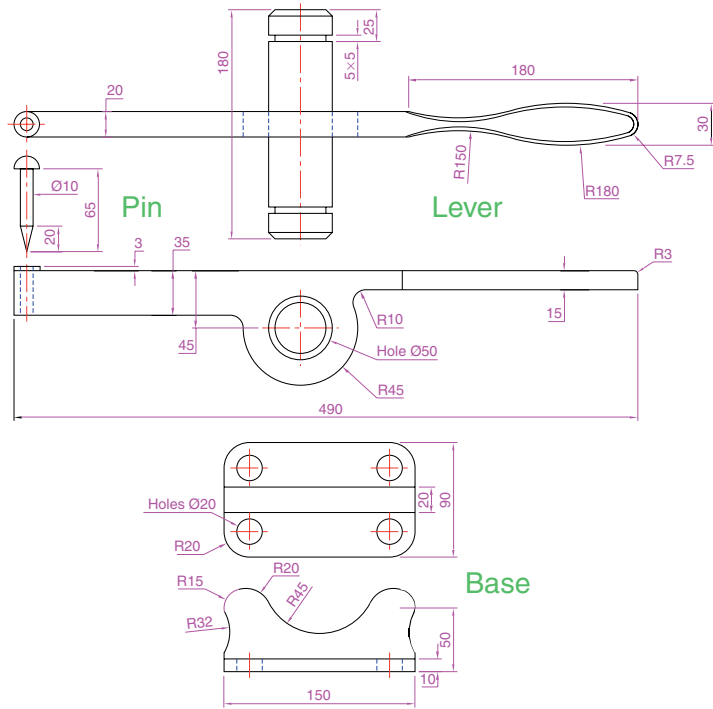

Fig. 17.33 Exercise 4 – details of the shapes and sizes
4. A point marking device is shown in the two-view projection in Fig. 17.33. The device is composed of three parts – a base, an arm and a pin.